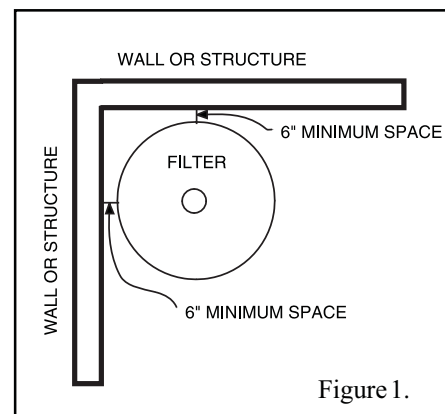

Figure 1.
10. Provide space and lighting for routine maintenance access. Do not mount electrical controls over filter. Install electrical controls (e.g., on/off switches, timers, control systems, etc.) at least five (5) feet from the filter. This will allow you enough room to stand clear of the filter during system start up.
11. Allow sufficient clearance around the filter to permit visual verification that the clamp is properly installed around the tank flanges, see Figure 1.